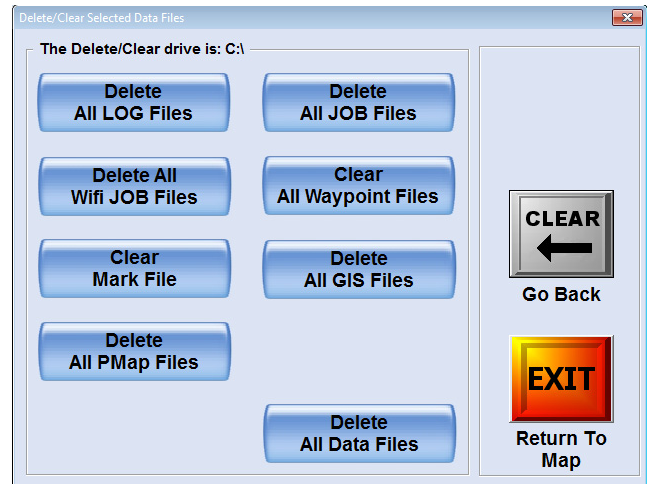

Figure 4-5: Delete/Clear Selected Data Files
Press **Delete Files** (2). The Delete/Clear Selected Data Files window appears (3 - Figure 4-5).